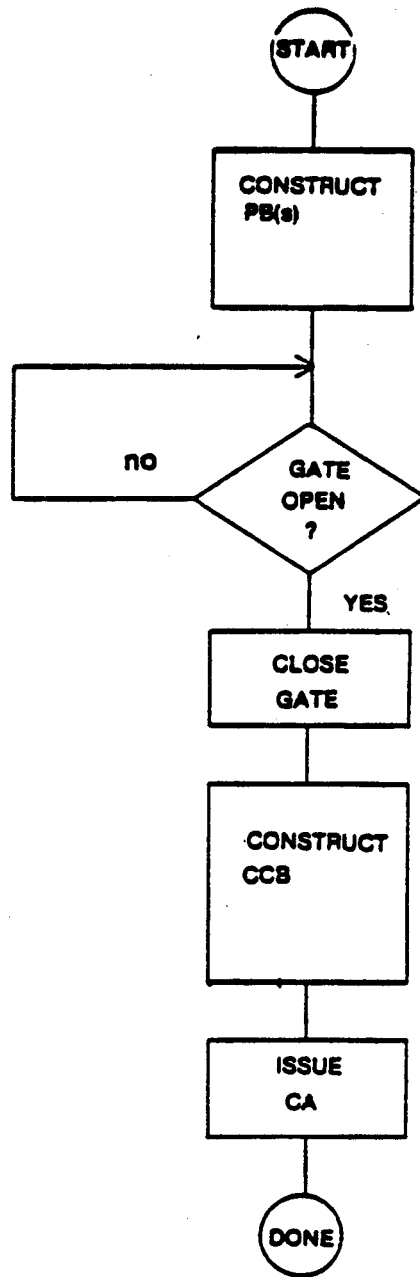

Fig. 4-1 General Command Sequence
4.0 After Initialization, the TAPEMASTER is ready to accept commands. The general sequence of events to begin execution of commands are outlined in Fig. 4-1. Table 4-1 is an 8080/8085 program to execute this sequence for a Tape/Write command outlined in section 4.3. Other commands would be similar.